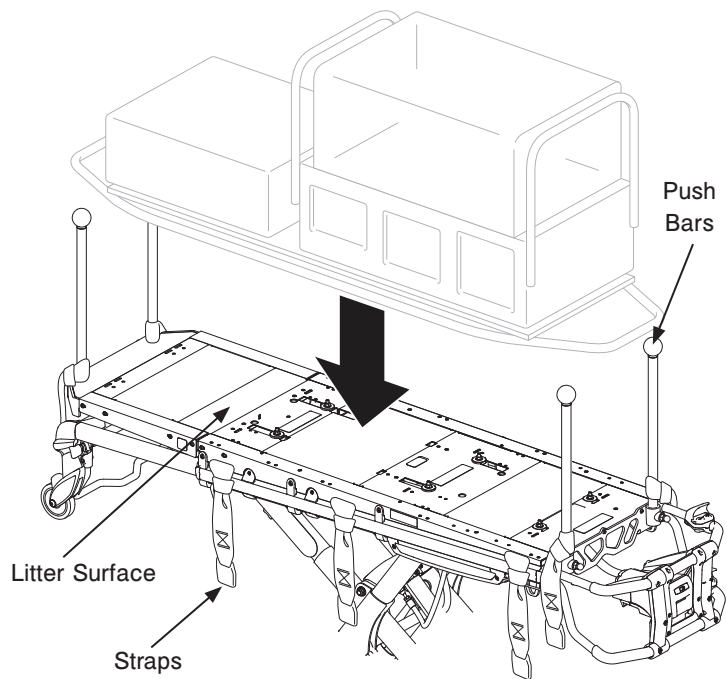

Figure 2
1. Secure the Air Sled to the litter surface using the straps, (not supplied) (Figure 2).
2. Ensure the straps are secured from the head end push bars to the Air Sled (Figure 2).